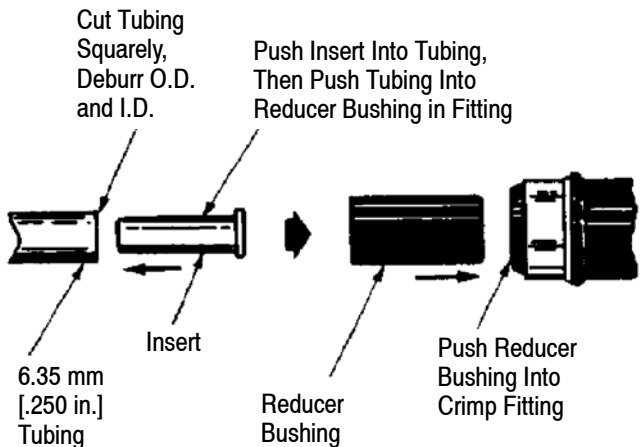

Figure 4
1. Cut tubing squarely. See Figure 4.
4. Push the Reducer Bushing into the crimp fitting. See Figure 4.